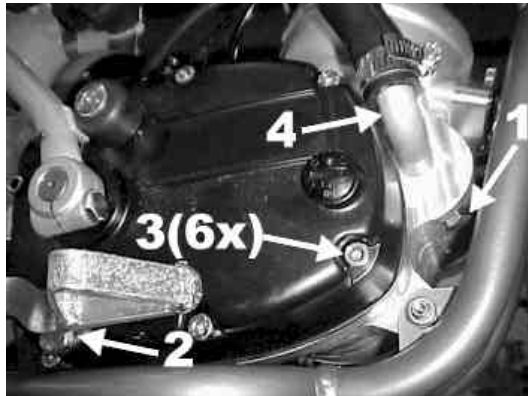

Figure 40
5. Drain engine transmission oil by removing drain screw using a 13mm- hex wrench. (item 2 in the figure below).
6. Remove kick-starter cover using a 5mm hex key. (item 3 six places)
8. Unscrew water elbow fitting. (Figure 40)